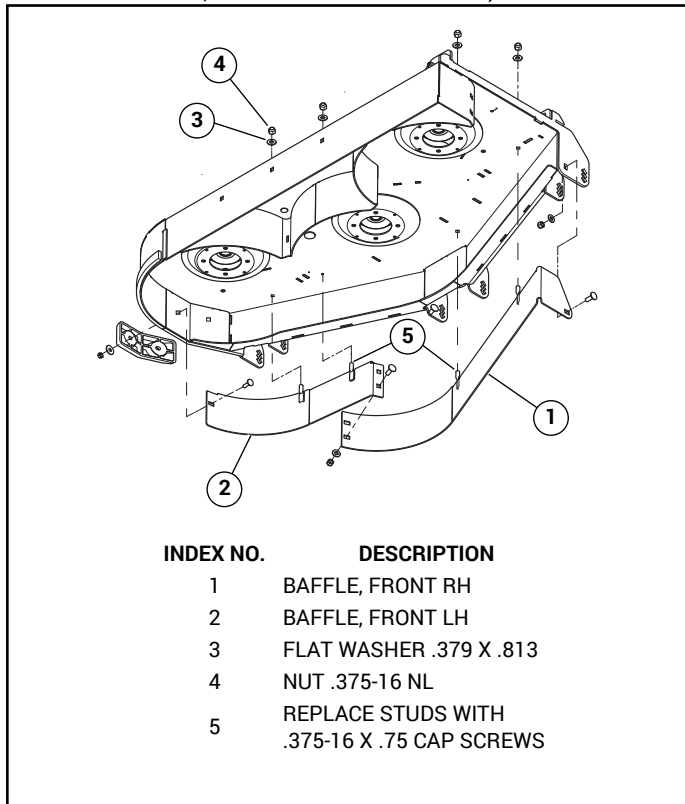

FIG. 7
3. Remove the baffles from the underneath side of the deck. Fig. 7